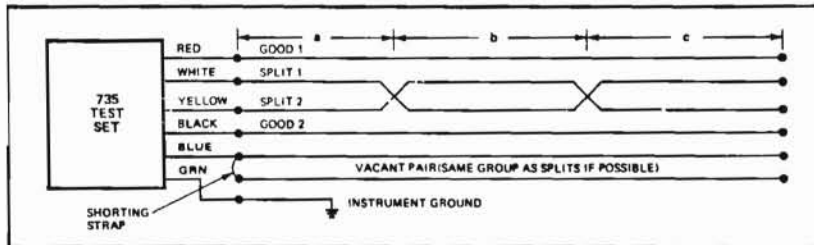

Figure 4-9. Connections for a Corrected Split
4.14 CORRECTED SPLITS. See Figure 4-9. The TO SPLIT measurement displayed on the 735 is really the length of the cable that is not split, and is not related to the distance to the split in any way. This is the sum of parts a and c. To locate the distance to the splits, the cable must be opened between the splits and the split locating procedure detailed in paragraph 3-12 performed in both directions. Contact Dynatel for isolation techniques.